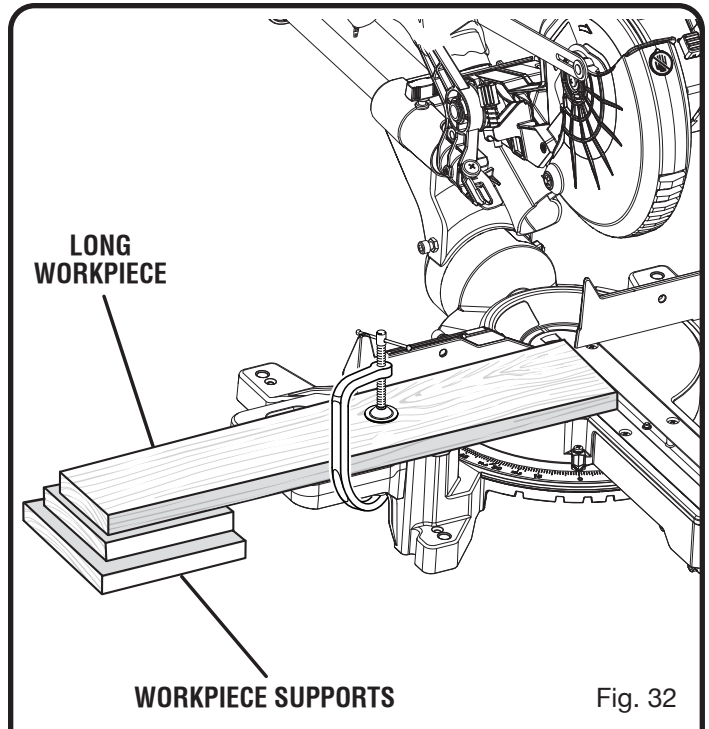

Fig. 32
- When cutting long pieces of lumber or molding, support the opposite end of the stock with a roller stand or with a work surface level with the saw table. *See Figure 32.*
- When cutting long pieces of lumber or molding, support the opposite end of the stock with a roller stand or with a work surface level with the saw table. See Figure 32.
See Figure 32.